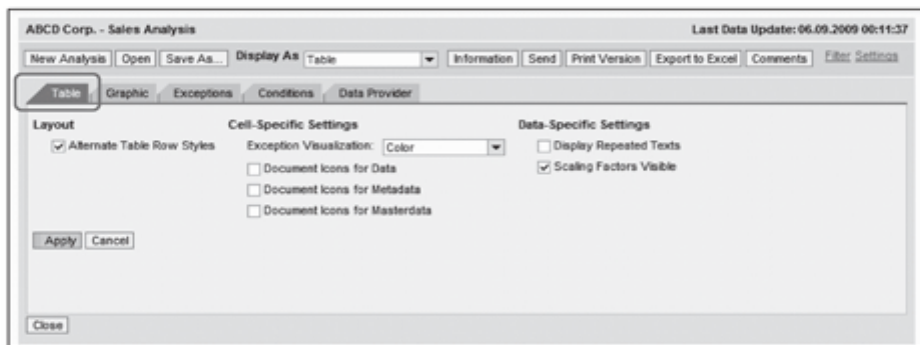

Figure 10.56 Analysis Settings: Table
BEx web analyzer also allows you to maintain additional settings, which can be used to perform advanced analysis on the data. Click on the Settings link (Figure 10.56) to call the settings view.
- ▶ **Table:** You can maintain the display settings for the tabular display of the data on this tab page (Figure 10.56).